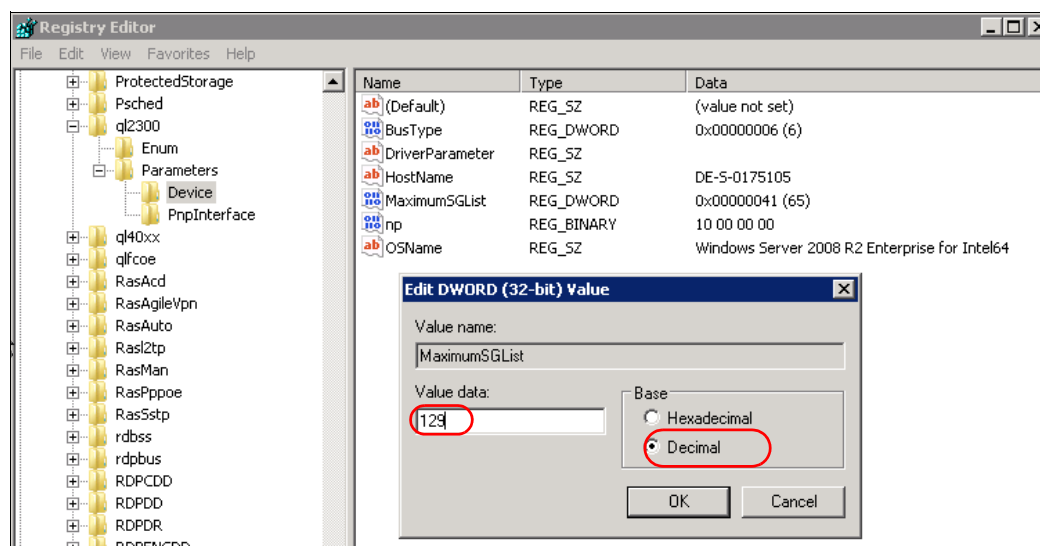

Figure 16-5 Setting a greater tape block size
2. Modify the value of the tape block size to 512 KB (524288 bytes). Enter this value as a decimal number, not hexadecimal (Figure 16-5). Calculate the "Value data" as follows: